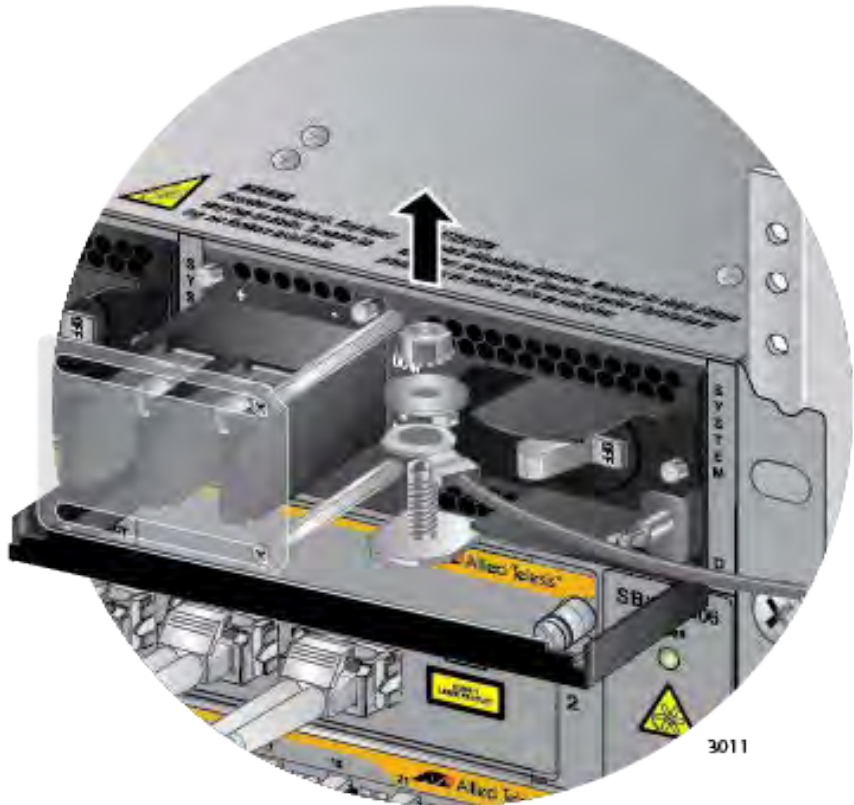

Figure 170. Removing the Grounding Wire
9. Use an 8 mm wrench to remove the grounding wire from the grounding post. Refer to Figure 170 on page 273.